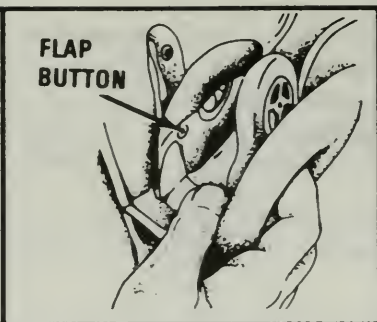

Figure 247. Nosecup button.
d. Carefully unbutton the nose cup from the flap button (Figure 247).